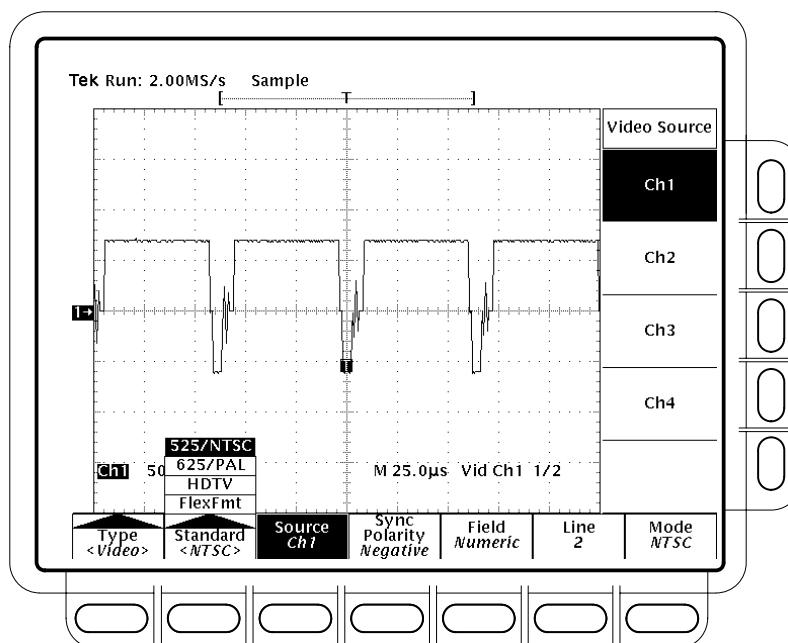

Figure 1-2: Video Trigger Menu — Standard
1. Press the main menu **Standard** button until you select the desired setup (see Figure 1-2).